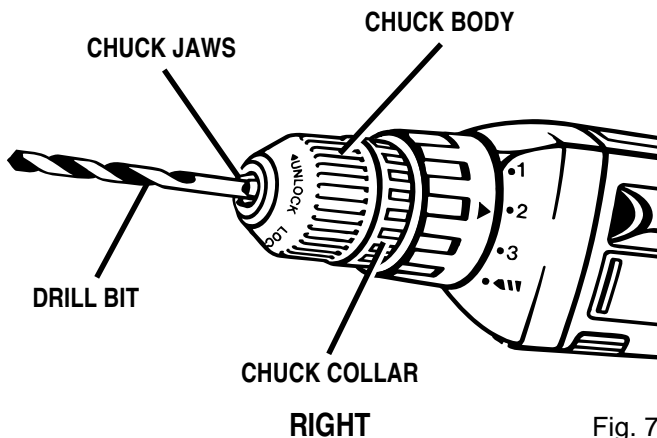

Fig. 7
See Figure 7.
- Insert drill bit into chuck the full length of the jaws as shown in figure 7.